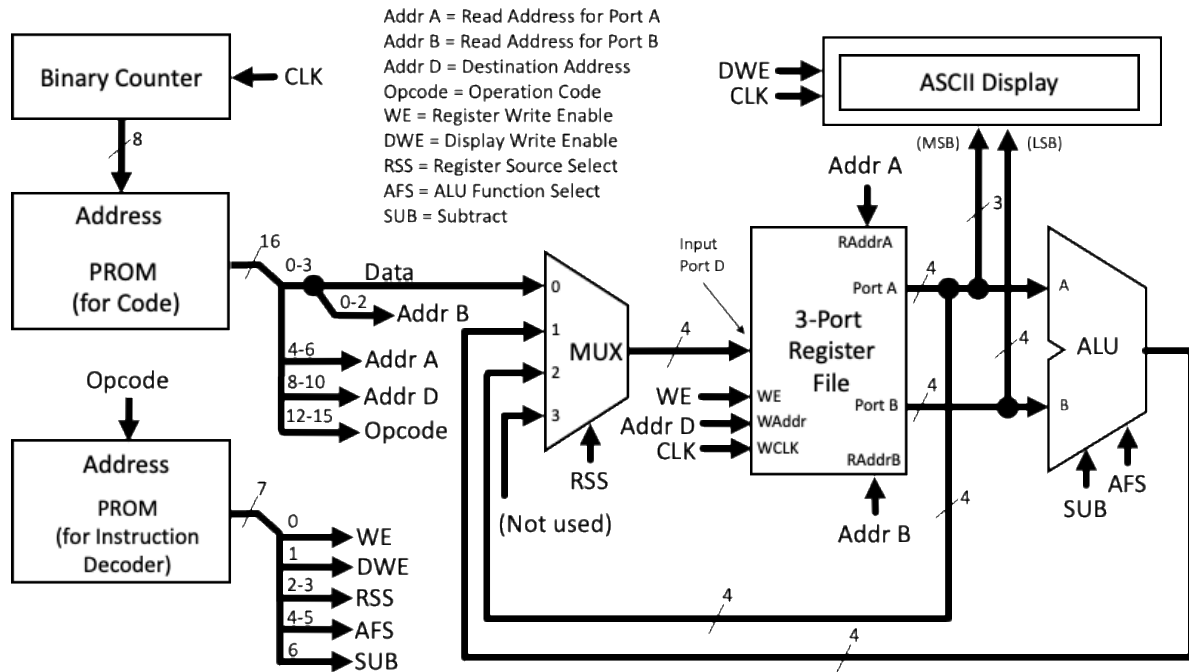

Figure 1 – A 4-bit CPU Block Diagram
The block diagram of this 4-bit microprocessor is shown in Figure 1. Though conceptually simple, this CPU architecture illustrates how the hardware of a microprocessor is controlled by a program to implement sequential instructions. Each instruction is “fetched” from memory and decoded into control signals which are then used to control the data paths, registers, ALU, and display.
Programs written in high-level languages (such as C++) are compiled and assembled into low-level machine code programs so they may be executed on a specific CPU. Machine code programs may be written without the use of a high-level language, but machine code is hard to read and understand. Assembly language is the next step up from machine code. It is more human friendly than the 1's and 0's of machine code. Each assembly language instruction usually translates to one machine code word. Below is an example of a simple program with both assembly code and machine code for our simple processor (refer to Table 1 and Figure 1 for a better understanding):
The instruction decoder will receive a 4-bit instruction (opcode) from the program PROM (the 4 most significant bits), and configure the control signals of the functional blocks so that the instruction may be executed. The control signals consist of the enable signals and select lines listed in Table 3. To design the Instruction decoder, use Figure 1 to help you identify how each of the 7 functional blocks will be configured in order to execute each instruction. Enter these required signal states into the truth table.
The required control bits are shown as outputs from the Instruction Decoder Prom in Figure 1. They are:
This data MUX will select the input to the register file. It will have 4 inputs with 4 data bits per input. The 2 select lines of this MUX originate from the instruction decoder (RSS in Figure 1). The output consists of 4 bits that serve as inputs to the register file.
The ALU will function like the ALU designed in the earlier lab except you will add the subtraction function. The data inputs are the 8 data bits from ports A and B of the register file (port A connects to the A input, port B connects to the B input). The control inputs to the ALU will consist of the 2 select bits required to select one of the four original ALU functions and a “Sub” signal to convert the adder into a subtracter (refer to Figure 9.4 of the textbook). The 4-bit output of the ALU will connect to one input of the “Register Input Data MUX” described earlier and shown in Figure 1. The ALU function selector bits should produce the following behavior:
4. Use “splitters” from the “Wiring” folder to create the signals, Data, Addr B, Addr A, Addr D, and Opcode, as shown in the block diagram in Figure 1. You will need to become familiar with the Logisim splitter settings (lower left window) in order to do this correctly. When done, it should look something like this: